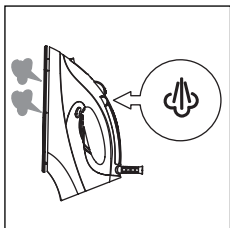

fig. 7
Steam burst (fig. 7)
- Turn the steam regulator on the dry position (fig. 7).
Position the steam regulator on the dry position (fig. 7). Rotate the thermostat dial clockwise as far as it will go (maximum steam position). When the indicator light goes off, place the iron in a vertical position and move it near the garment. Press the super steam button (fig. 7) until the indicator light comes on again. Wait until the light goes off before continuing vertical ironing.